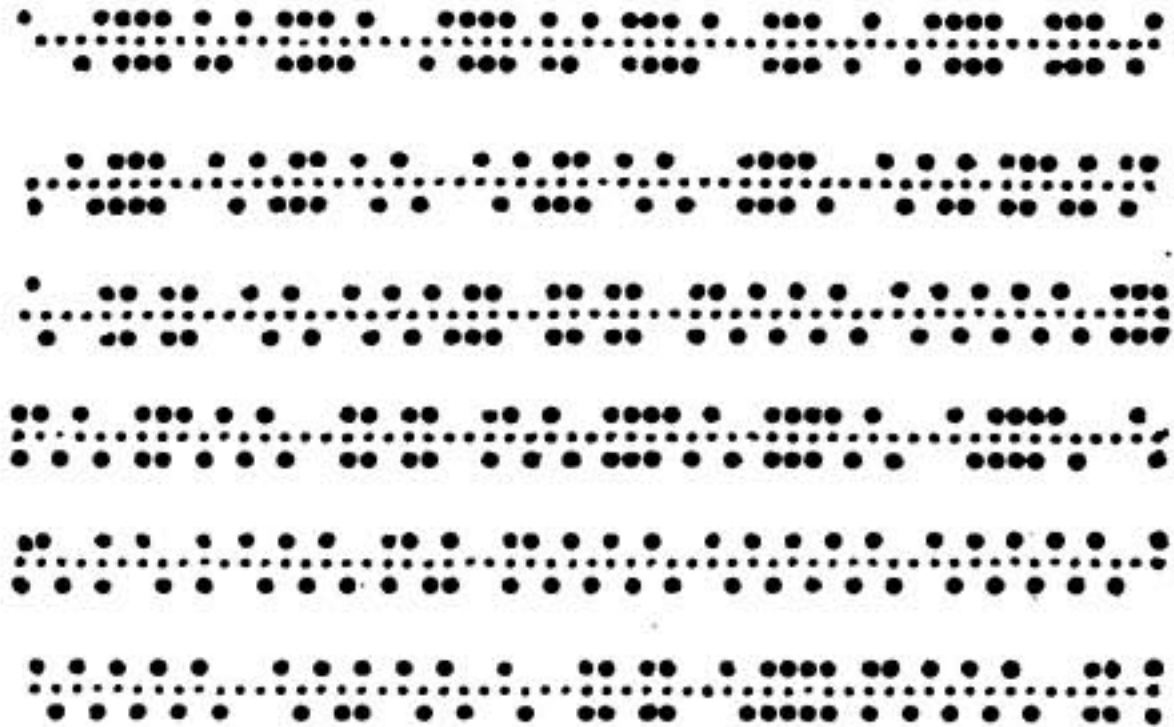

Fig. 1. Portion of Wheatstone Tape used for transmitting 1000 G.M.T. meteor message on June 10th from G.F.A. Air Ministry 1680 Av.
(2) Forecasts are perhaps of wider interest than coded meteors and are usually sent out in plain language. The Belgian Meteorological Office transmits daily at noon (G.M.T.) from Uccle, call sign HS, a forecast for Belgium and Western Europe in French. The report is issued specially for amateurs, and is therefore transmitted very slowly and repeated. A wavelength of 1,500 metres is used and the message usually lasts about 20 minutes. The Air Ministry also broadcasts daily at 0915 (9.15 a.m. G.M.T.) and 2000 (8 p.m. G.M.T.) on 1,400 metres C.W., a general forecast in plain language based upon observations made at 7h. and 18h. respectively. These messages are sent out from the Air Ministry (G.F.A.) through a Wheatstone tape machine and the rate of sending is about eight words per minute. (See Fig. 1.)
(3) The simplest form of crystal detector
Fig. 1. Stations supplying Time and Weather Reports, (1) Stations issuing Meteorological Reports marked ————, (2) Stations issuing Time Signals marked T. Principal Steamship Routes marked ..... and long-distance Aeroplane Flights marked ————.